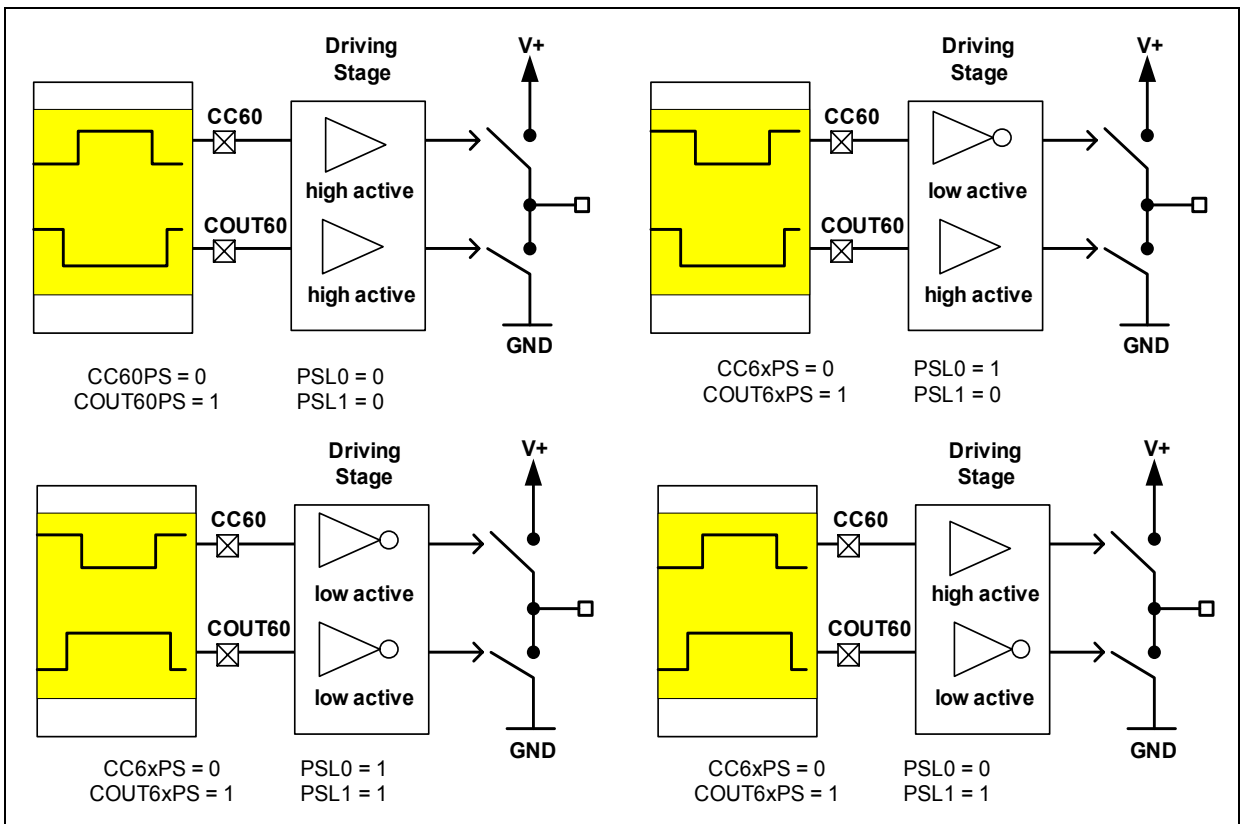

Figure 12-5 Different settings of CC6xPS/COUT6xPS and PSL
**Figure 12-5** shows the settings of CC6xPS/COUT6xPS and PSL for different applications. The examples are in the center-aligned mode with dead-time.